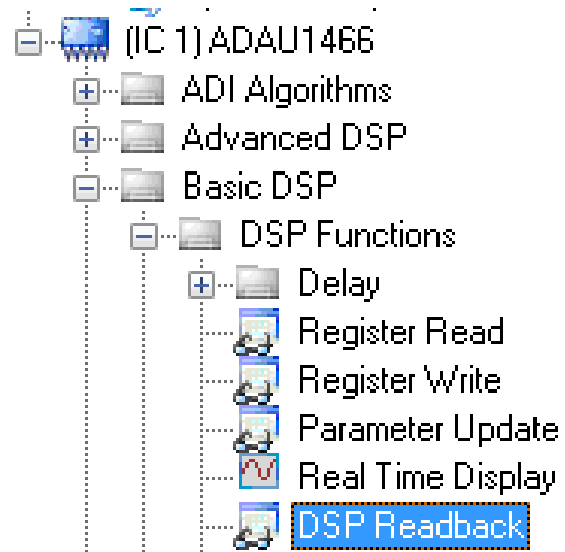

Figure 58. DSP Readback Block Selection
- a. From the **Basic DSP > DSP Function** folder, click **DSP Readback** (see Figure 58) and drag it into the project space to the right of the toolbox.